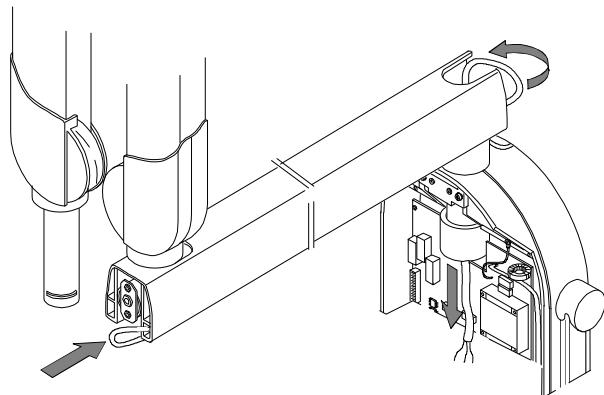

Figure 6-11
7. Insert the cable coming from DP arm inside the extension, following the diagram in Figure 6-11.